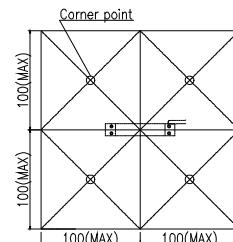

Figure 1
- (6) Make sure that the attaching surface is clean and free from foreign matter. Tighten the bolts while using much care not to apply unnecessary force (torsion or lateral load) to the load cell.
- (7) For the allowable dimensions of the platform, see Figure 1. Also, when designing a platform, see the "3-2 OVERLOAD PRECAUTIONS".